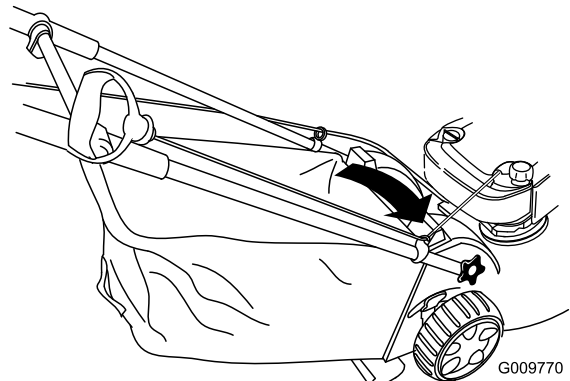

Figure 32
1. Route the starter rope around the lower rope guide (Figure 32).